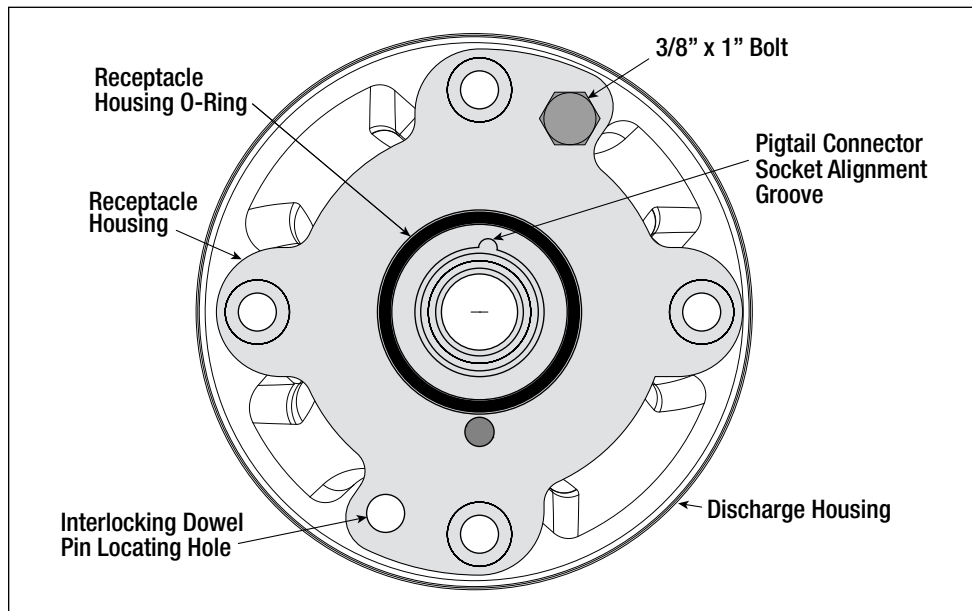

Figure 18. Pigtail Connector Socket Alignment Groove
6. At the Receptacle Housing, pull out the pigtail connector/wiring and discard (see Figure 18).
NOTICE Be careful to align the ridge along the outside of the pigtail connector with the groove in the pigtail housing as you push the connector into the housing (see Figure 18).
11. Look at the bottom of the Receptacle Housing and note the 3/8" hex head bolt (Figure 18) and the mechanical interlocking dowel pin locating hole, 180 degrees opposite.
NOTICE Be careful to align the ridge along the outside of the pigtail connector with the groove in the pigtail socket as you push the connector into it (see Figure 18).
26. Look at the bottom of the Receptacle Housing and note the 3/8" hex head bolt and the mechanical interlocking dowel pin locating hole, 180 degrees opposite. (see Figure 18).